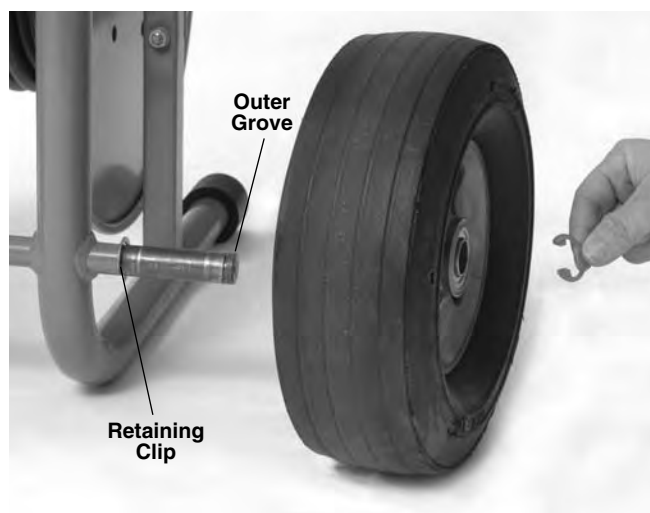

Figure 4 – Assembly of the KJ-2200
1. Install retaining clip into inner groove on each end of axle. (See Figure 4.)